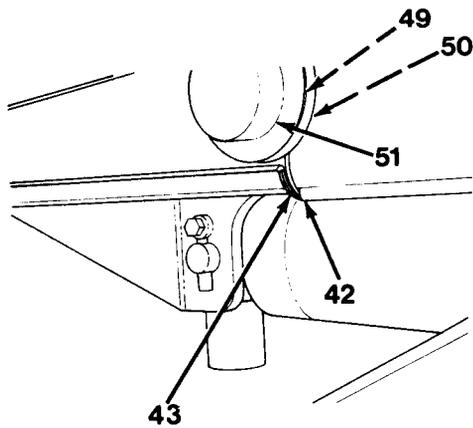

Figure 10-12
30. Remove capscrew (49), lockwasher (50) and cable reel (51, Figure 10-12).
31. Remove wire harnesses (42) and (43).
1. Install wire harnesses (43) and (42, Figure 10-12).
2. Install cable reel (51), lockwasher (50) and capscrew (49).